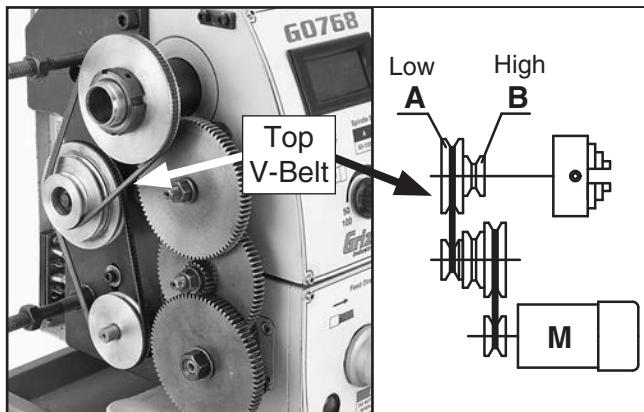

Figure 94. Top V-belt in "A" position.
2. Place the top V-belt in the **A** position for low (50-1000 RPM), as shown in **Figure 94**.